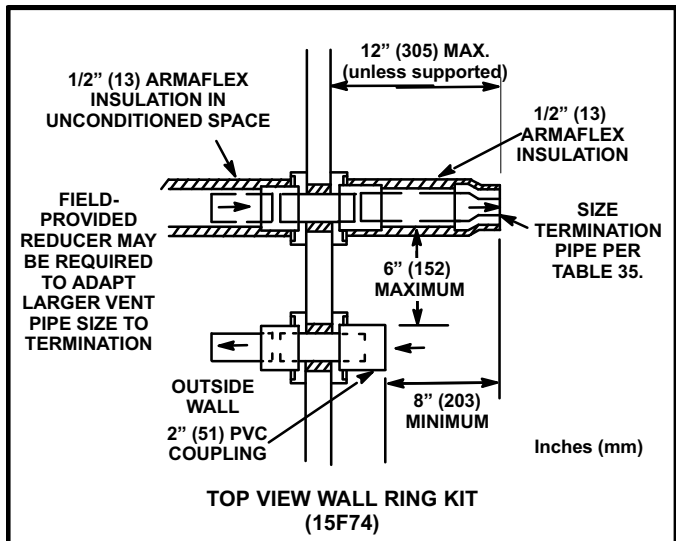

FIGURE 30
6. On field supplied terminations for side wall exits, exhaust piping should extend a maximum of 12 inches (305mm) beyond the outside wall unless supported. Intake piping should be as short as possible. See figure 30.